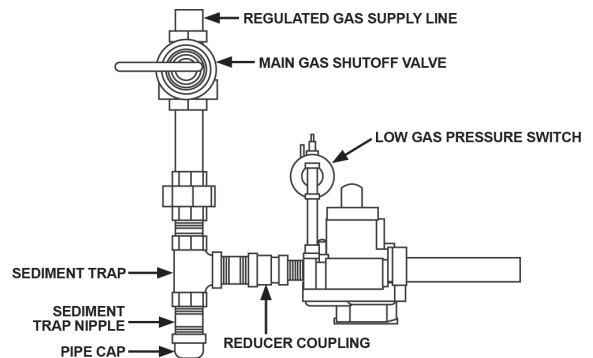

FIGURE 21.
To trap any dirt or foreign material in the gas supply line, a sediment trap must be incorporated in the piping (see Figure 21). The sediment trap must be readily accessible and not subject to freezing conditions. Install in accordance with recommendations of serving gas suppliers. Refer to the latest version of the National Fuel Gas Code.
1. For test pressures exceeding 1/2 psi (3.45 kPa) disconnect the water heater and its Main Gas Shutoff Valve from the gas supply piping system during testing, see Figure 21. The gas supply line must be capped when disconnected from the water heater.
1. Close the Main Gas Shutoff Valve, see Figure 21 on page 23.
3. Close the Main Gas Shut Off Valve, see Figure 21 on page 23.
4. Wait five (5) minutes for any residual gas to clear.